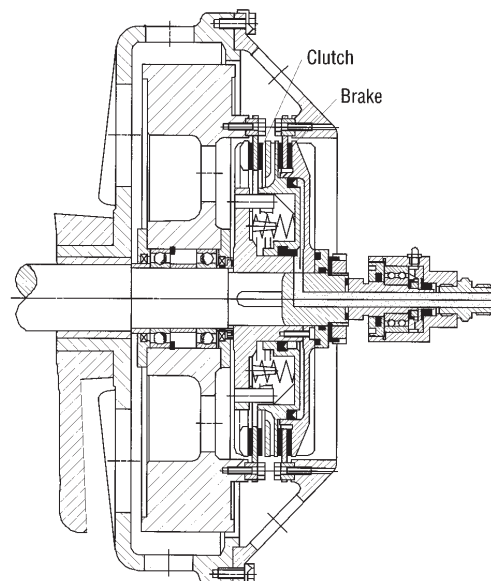

Fig. 1: Clutch/brake combination
- Presses with a combined clutch and brake system (Fig. 1)